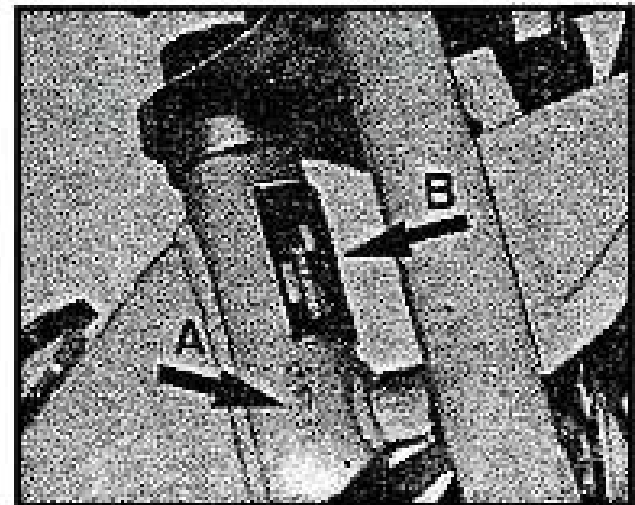

Fig. 1
The vehicle number is stamped on the right hand side of the front headstock. «A» (Fig. 1).
In addition to having the identical number to the one stamped on the frame, this plate also bears the year of manufacture, the model, and the weight, engraved on it. «B» (Fig. 1).
- Fig. 1 — 0001702010900